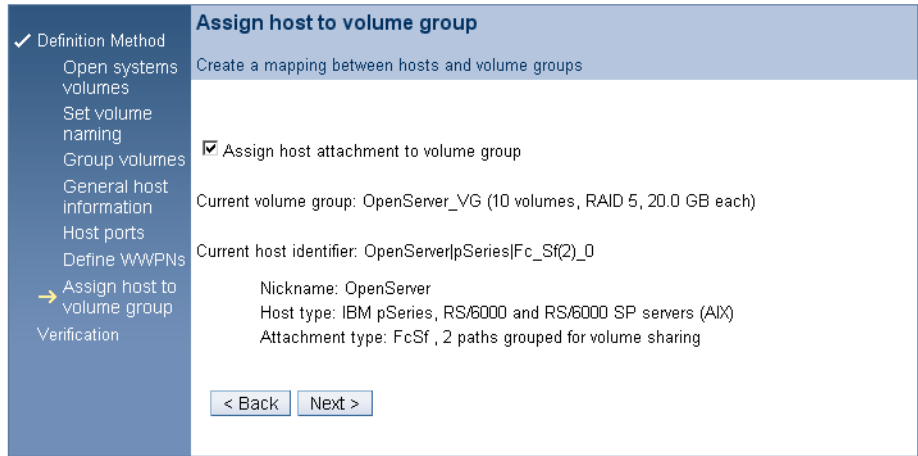

Figure 11-10 Express configuration: Assigning the volume group to the host attachment
10. The next window, Figure 11-10, allows you to map the newly created volume group to the newly defined host attachment by checking the **Assign host attachment to volume group** check box.